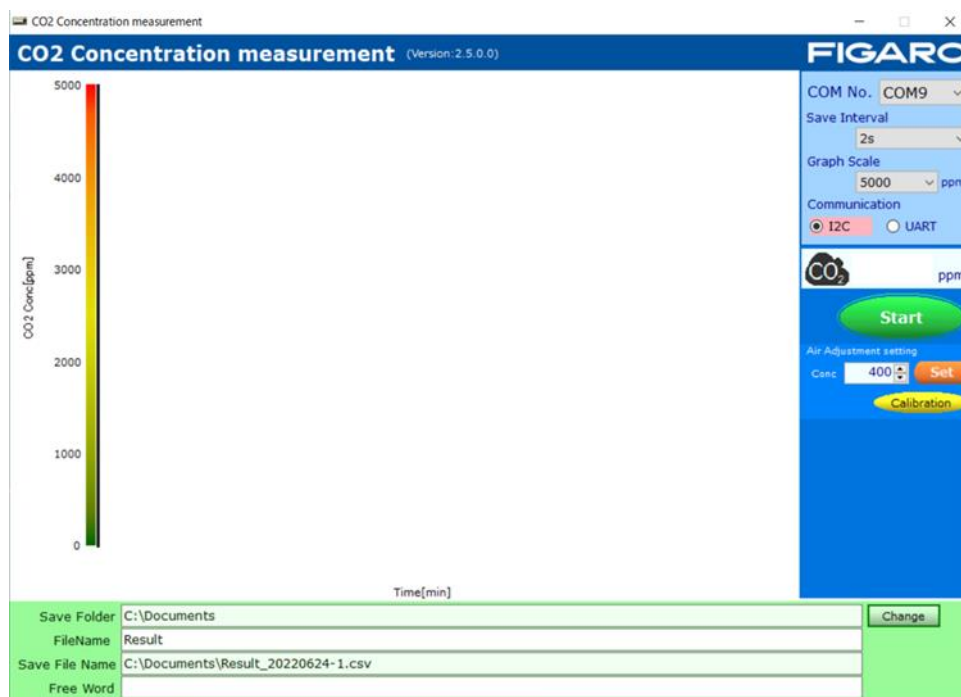

Figure 8 - Startup Screen
- (4) Double-click the icon for the data management software (ConcMeasure.exe) as installed on the computer to display the startup screen shown in Figure 8.